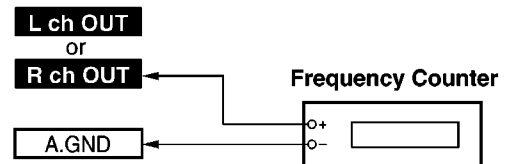

Fig. 13-3.
1. Connect the measuring instrument as shown in Fig. 13-3.